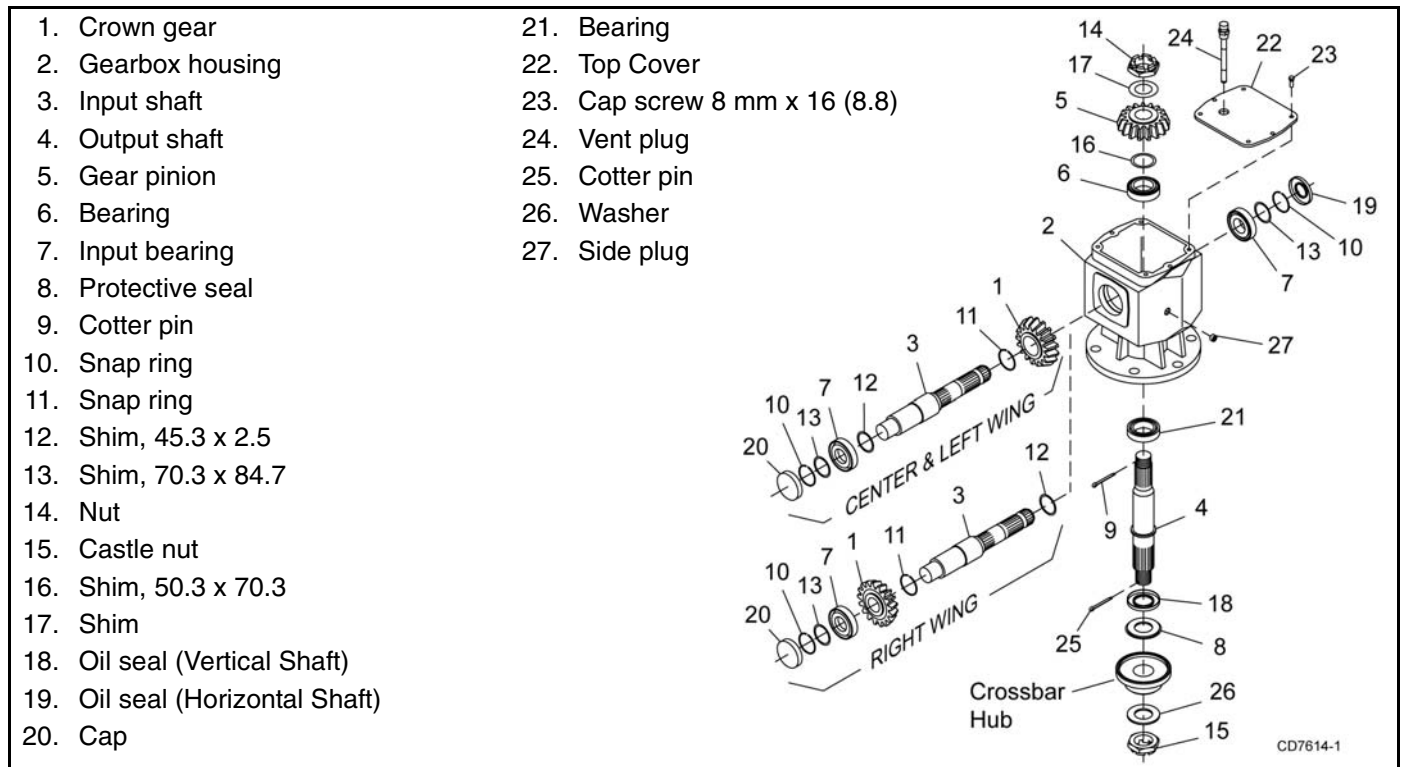

Figure 14. Style B Gearbox
**Refer to Figure 14, page 31.**
2. Remove vent plug (24) and siphon gear lube from housing through this opening.
4. Remove protective seal (8) and vertical shaft seal (18). Replace seal (18) with new seal.
**Refer to Figure 14.**
3. If the leak occurred at either end of horizontal shaft, remove oil cap (20) and/or oil seal (19). Replace with new one.
1. Remove top cover (22) from gearbox and pour out gear oil.
2. Remove oil cap (20) (to be replaced).
3. Remove snap ring (10) and shim (13) from input shaft (3).
4. Support gearbox in hand press and push on input shaft (3) to remove bearing (7).
5. Remove six cap screws (23) and top cover (22) from housing. Remove gear (1) from inside housing.
6. Remove oil seal (19) from front of housing (to be replaced).
7. Remove snap ring (10) and shim (13) from front of housing (2).
8. Remove input bearing (7) by using a punch and hammer from outside of housing.
10. The castle nut (15), cotter pin (25), and hub are already removed with the stump jumper/crossbar. Remove the protective seal (8), and oil seal (18).
4. Slide output shaft (4) through both bearings (6 & 21) until it rests against top bearing (6).
5. Slide shim (16) over output shaft (4).
6. Press gear (5) onto output shaft (4) and secure with shim (17), castle nut (14), and cotter pin (9).
7. Apply grease to lower seal lips (18) and press seal (18) over output shaft (4), using a tube of the correct diameter. Be sure not to damage the seal lip.
8. Press in housing so that seal is recessed. Press protective seal (8) until seated flush with housing. Verify that the seal (8) is seated correctly.
9. Press bearing (7) into the housing, using a round tube of the correct diameter and a hand press. Secure with shim (13) and snap ring (10).
10. Secure snap ring (11) on input shaft (3) if not already secure.